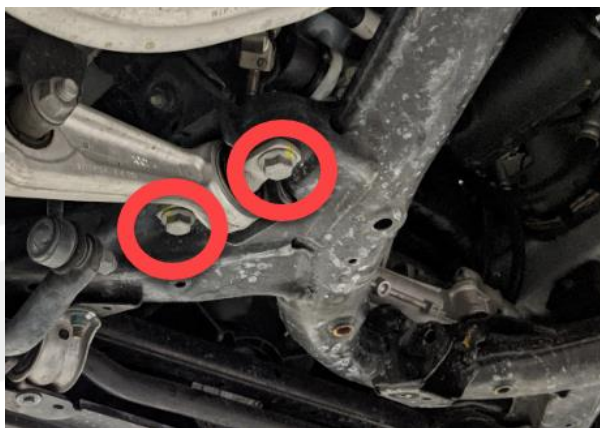

Figure 1
2. Perform a torque check on the bolts (x2) that attach the LH front lower lateral link to the subframe (torque 115 Nm) (Figure 1).